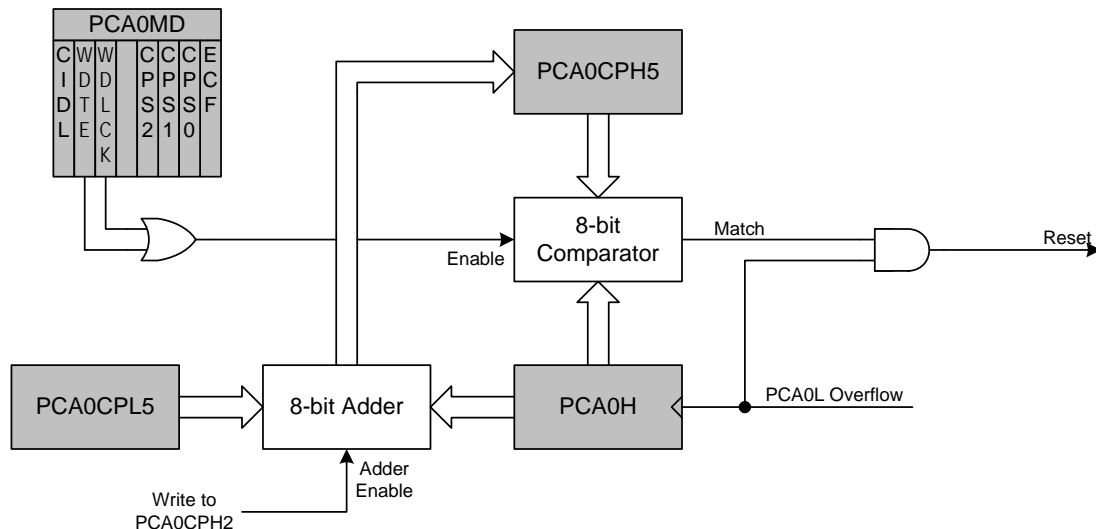

Figure 25.11. PCA Module 2 with Watchdog Timer Enabled
While the WDT is enabled, writes to the CR bit will not change the PCA counter state; the counter will run until the WDT is disabled. The PCA counter run control bit (CR) will read zero if the WDT is enabled but user software has not enabled the PCA counter. If a match occurs between PCA0CPH5 and PCA0H while the WDT is enabled, a reset will be generated. To prevent a WDT reset, the WDT may be updated with a write of any value to PCA0CPH5. Upon a PCA0CPH5 write, PCA0H plus the offset held in PCA0CPL5 is loaded into PCA0CPH5 (See Figure 25.11).